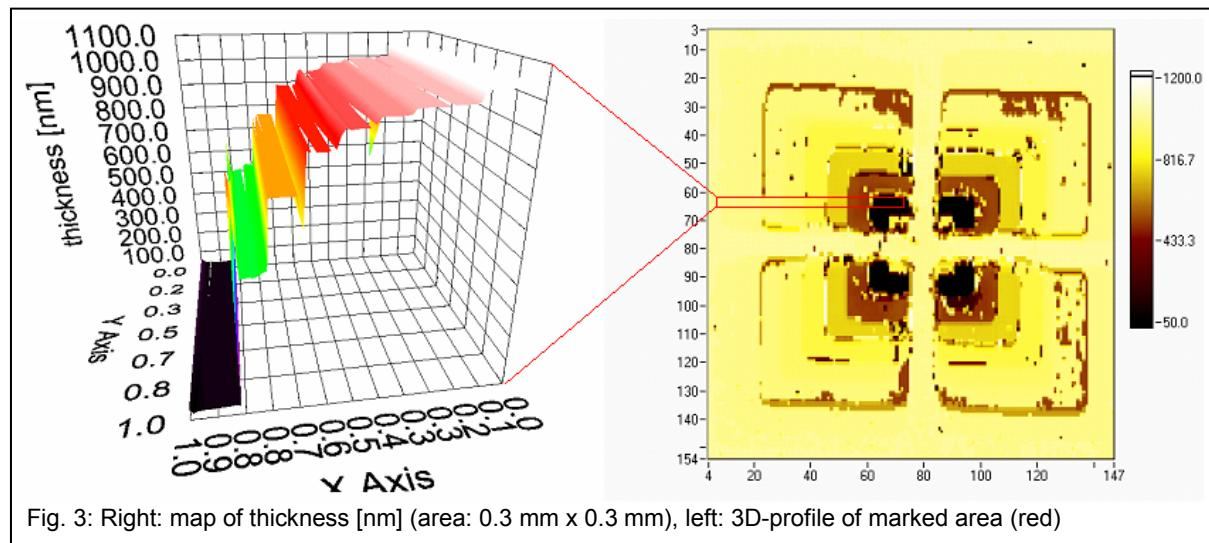

Fig. 3: Right: map of thickness [nm] (area: 0.3 mm x 0.3 mm), left: 3D-profile of marked area (red)
2. Calculate the thickness map (fig.3) while fitting on the whole set of delta maps with the thickness as free parameter